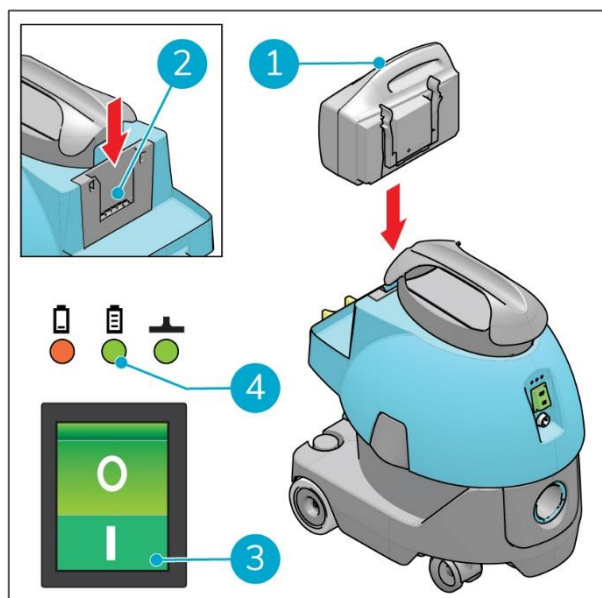

Figure 17
1. Insert the battery (Figure 17, pos 1) in the slot (Figure 17, pos 2), until you hear a "click". The battery is now fixated.
2. Press the ON/OFF switch (Figure 17, pos 3) to turn on the i-vac 5B.
3. Check the battery power status LED located above the ON/OFF switch (Figure 17, pos 4). See section 2.1.
4. Press the ON/OFF switch (Figure 17, pos 3) to turn off the i-vac 5B.